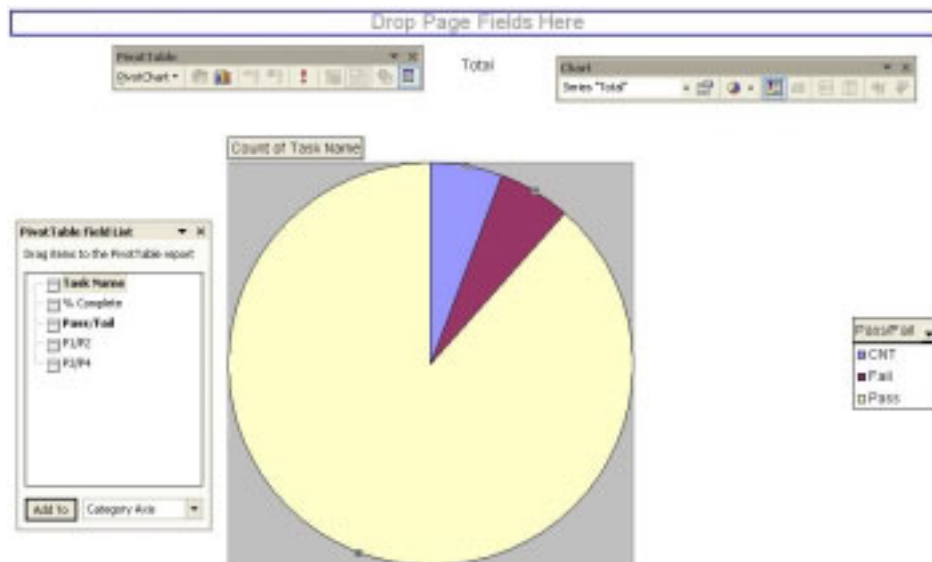

Figure 8 – Default Pie Chart
- This may not be the chart type that you desire. In the **Chart** toolbar, select the **Chart Type** drop-down list box (📊). A selection of chart types will display. Select the **Pie Chart**. The pie chart will display as in Figure 8.